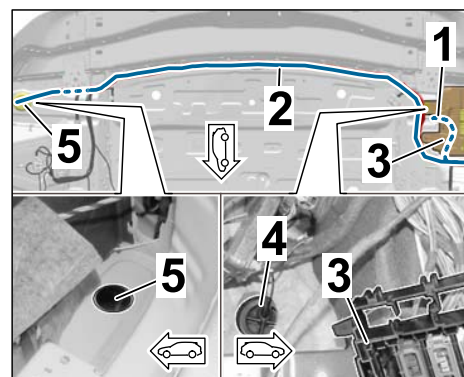

Figure 33
3.2.4 Rear end plate area and grommet/stopper for luggage compartment floor (⇒ Figure 33)
- Branch for exhaust flap (left) to grommet/stopper for luggage compartment floor, left (beneath fuse box in luggage compartment (left) → branch for exhaust flap on the right of the rear end plate → along rear end plate (⇒ Figure 33 -top-) → grommet/stopper for luggage compartment floor, right.